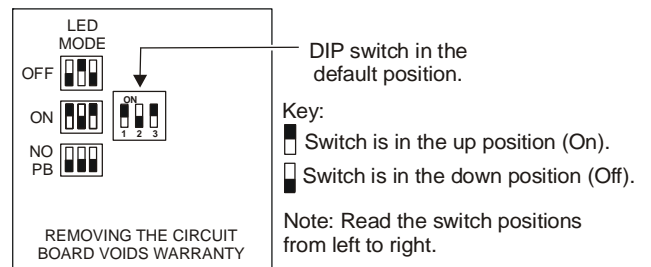

Figure 5: DIP Switch Positions
Internal wiring diagrams are shown in Figure 2 and Figure 3. Terminal block designations are shown in Figure 4. The terminals are identified in Table 1. See the *Setup and Adjustments* section and Figure 5 for an explanation of the Light-Emitting Diode (LED) and Push Button (PB) modes. Make connections pairing the following wires:
Note: The Manual Override PB does not respond when the DIP switch positions are all down (LED mode NO PB, as shown in Figure 3 and Figure 5).
To change the controller mode, use the three position DIP switch located on the Printed Circuit Board (PCB). See Figure 5 and consult Table 3 to determine controller compatibility.
Do not use switch settings other than those shown in Figure 5. Using other switch settings may cause incorrect controller operation or damage to the element, controller, and/or controlled equipment.